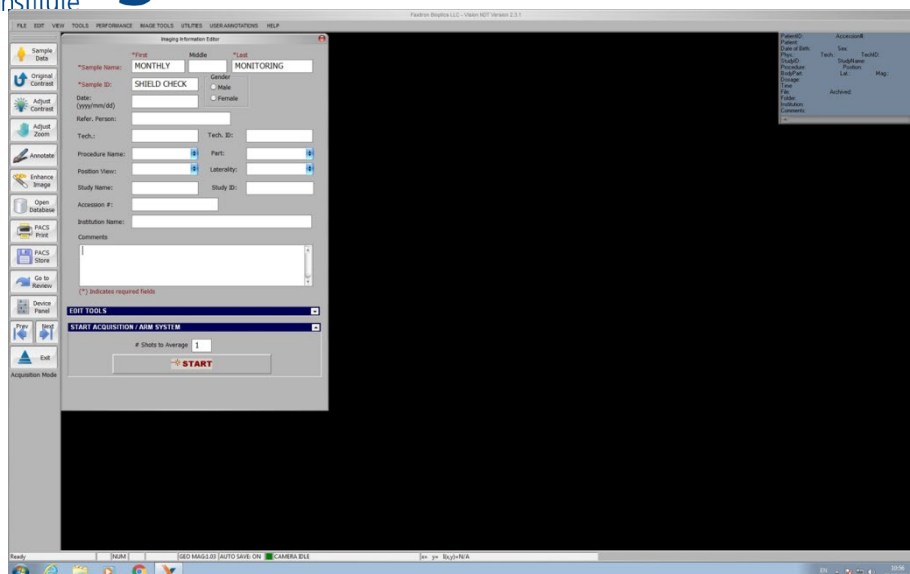

Figure 4: imaging information editor
12. The imaging information editor should now appear, pre-filled as shown in figure 4.